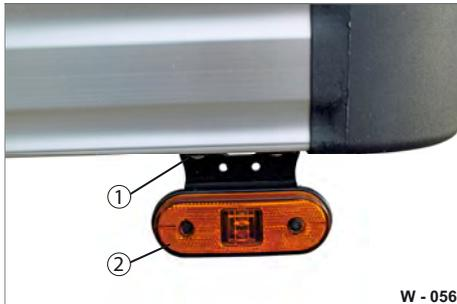

Fig. 67 "LED" side marker light
- ▶ Release the fixing screws (Fig. 67/1).
- ▶ Remove the LED light (Fig. 67/2) - remove connection.